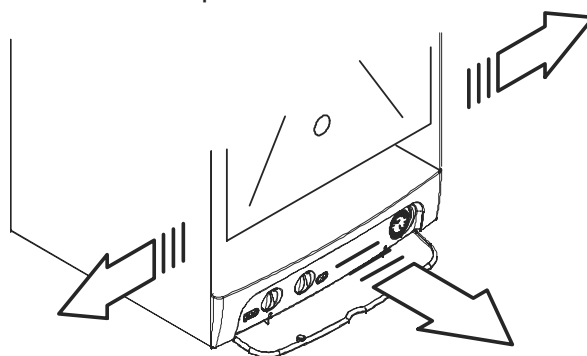

Fig. 6.9
- 4 Remove the side panels or move the lower part of the side panels as indicated in Fig. 6.9 and pull the control panel. When completely pulled out, the panel can rotate 45° downwards to facilitate the operations on the internal parts.